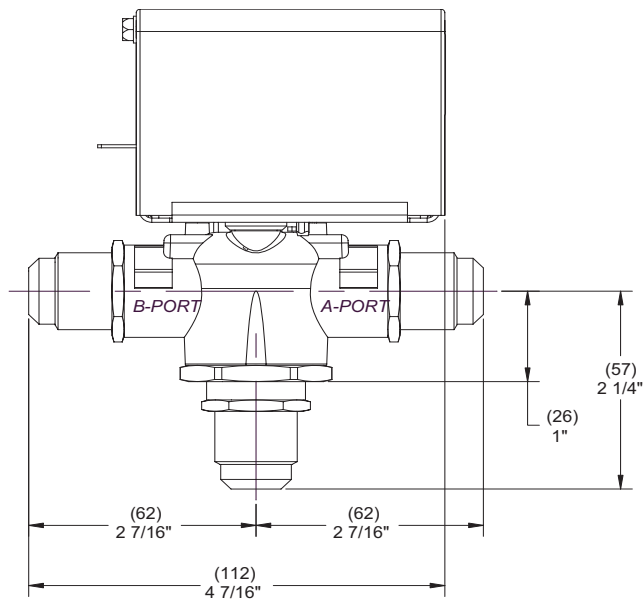
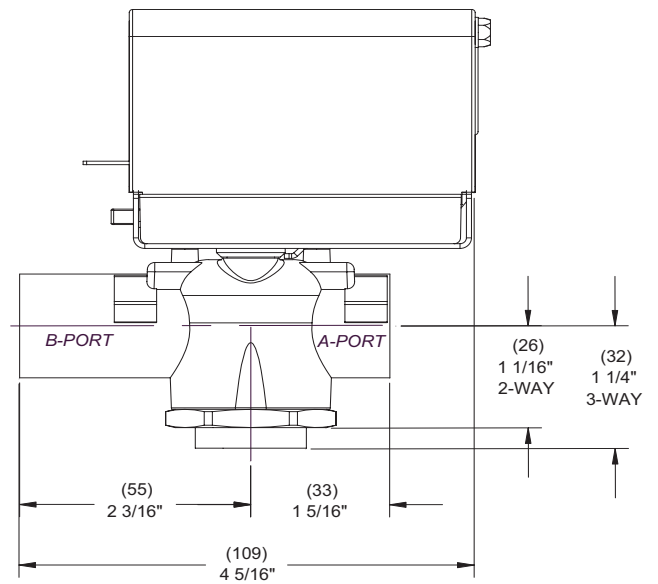

Figure-3 SAE - High Close-Off Style.
Figure-4 Inverted Flare - General Close-Off Style.
| Inverted Flare  | See Figure-3 and Figure-4. |            |              | 4-3/16 (106)               | 4-7/16 (113)       |
| SAE Flare       |                            |            |              | See Figure-3 and Figure-4. |                    |